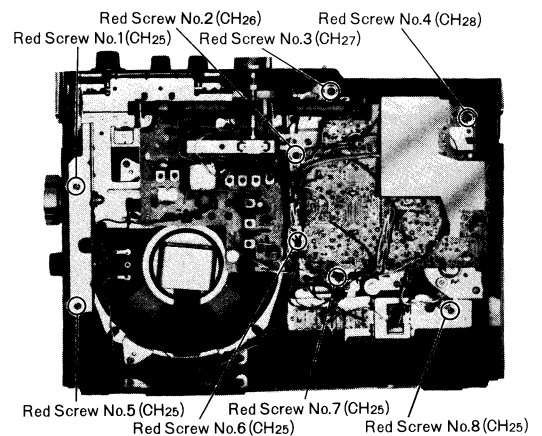

Fig. 2
6. Remove eight (8) red chassis screws, nos. 1~8, as illustrated in fig. 2.